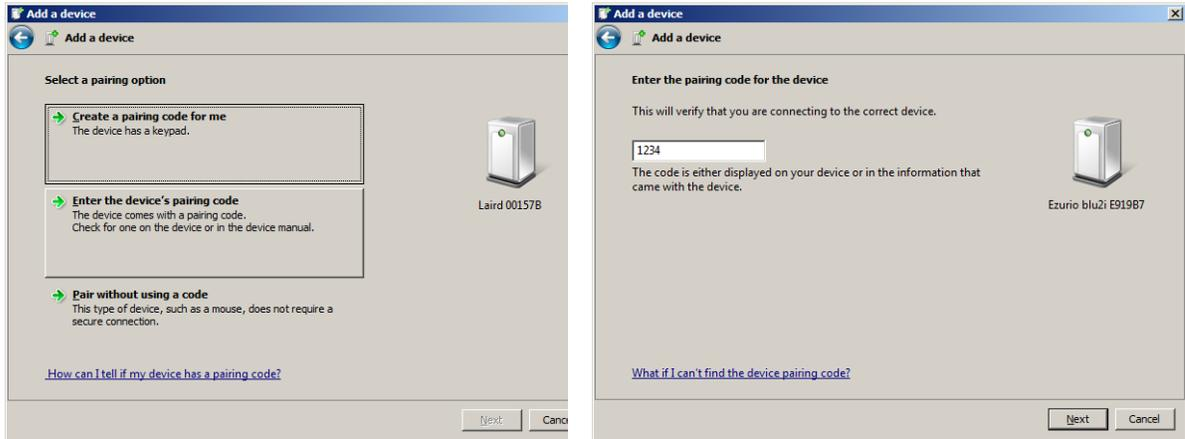

Figure 7: Enter the device's pairing code
4. Select **Enter the device's pairing code** (Figure 7). This was set to "1234" via AT+BTK="1234" in the Preparation.